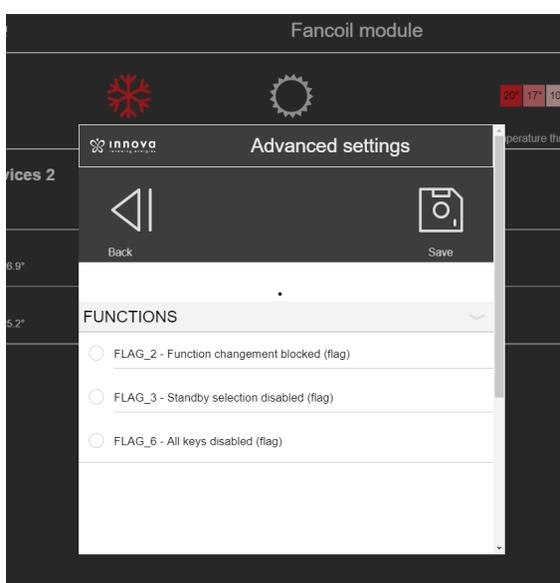

Figure 8.8
2. The advanced parameters are shown in Figure 8.8 and the meaning of the flags (internal registers) is as follows: